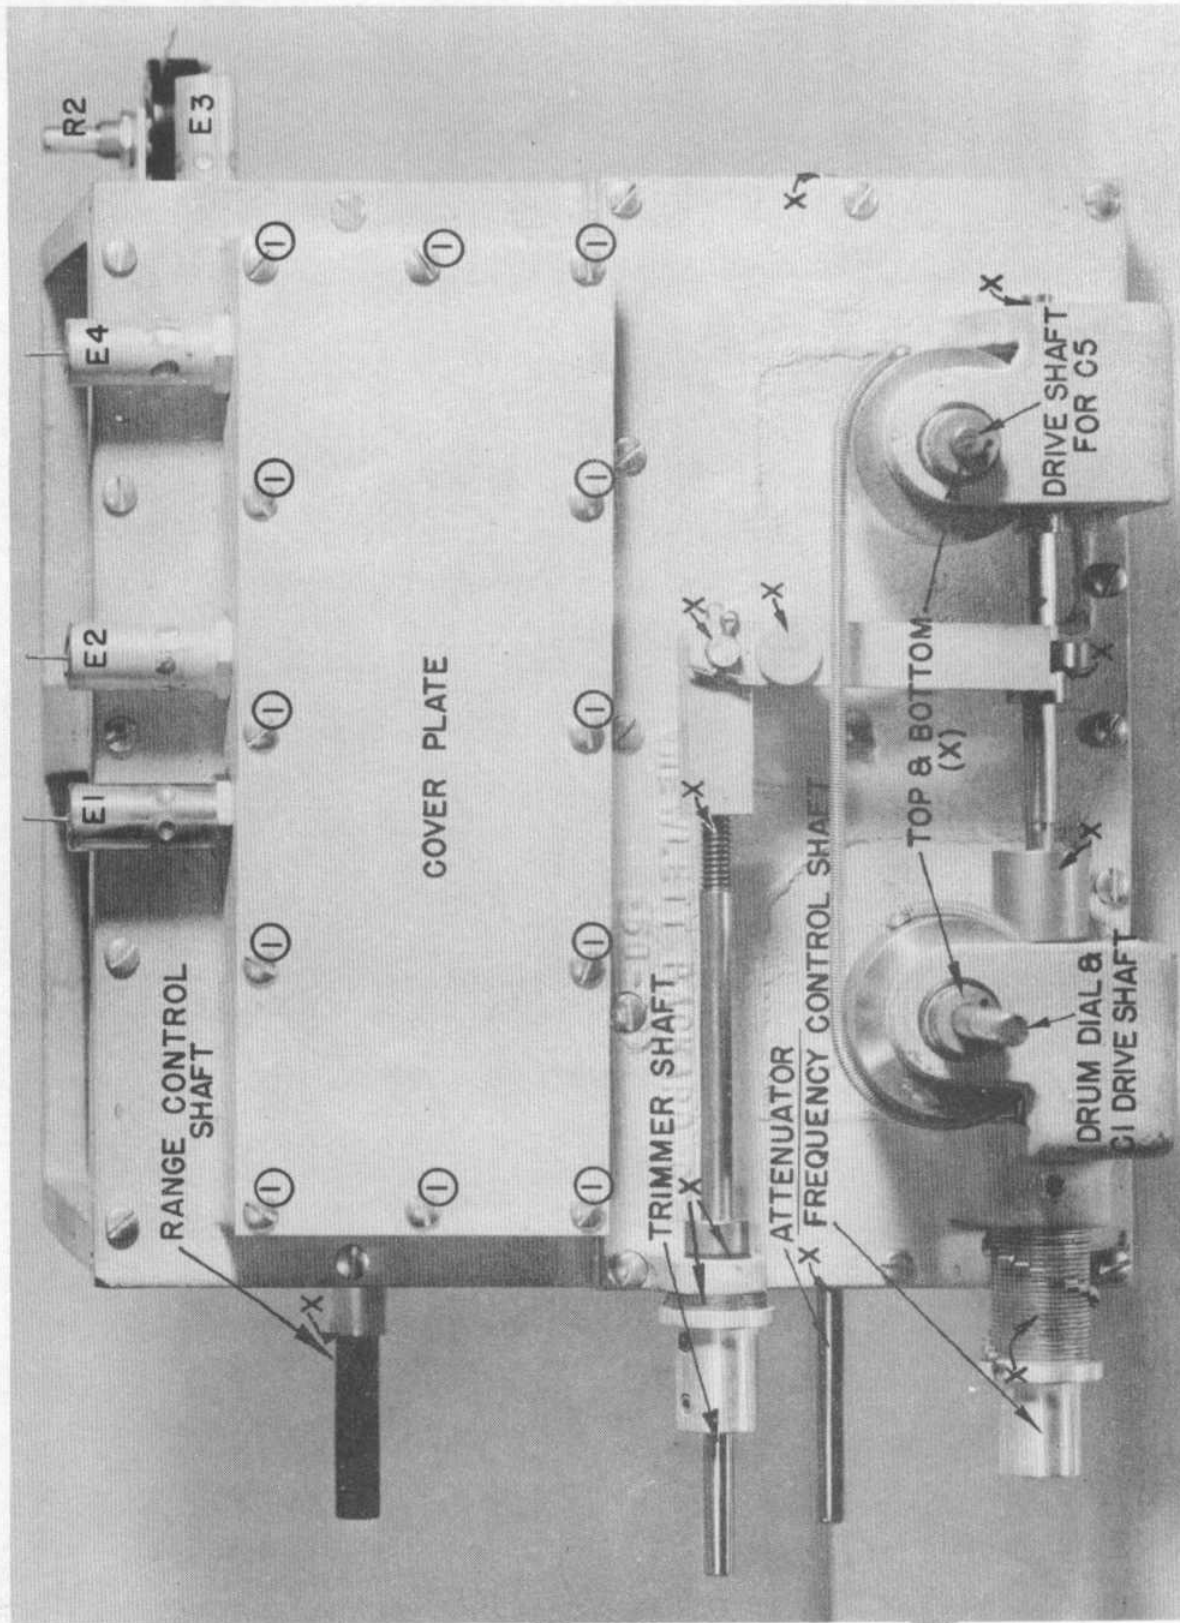

Fig. 3. Top View of Tuner Casting
1. Remove all of the screws (#1) from the cover plate, as shown in figure 3. Lift this cover plate from the main casting.